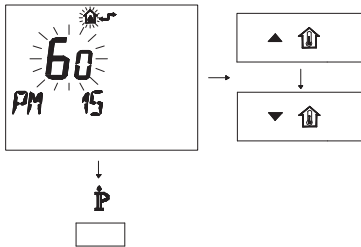

Fig. 7.14
- Modify the programmed SET by acting on buttons \blacktriangle \uparrow or \blacktriangledown \uparrow until a **setting of 60** is displayed, wait for the number programmed to flash (Fig. 7.14)